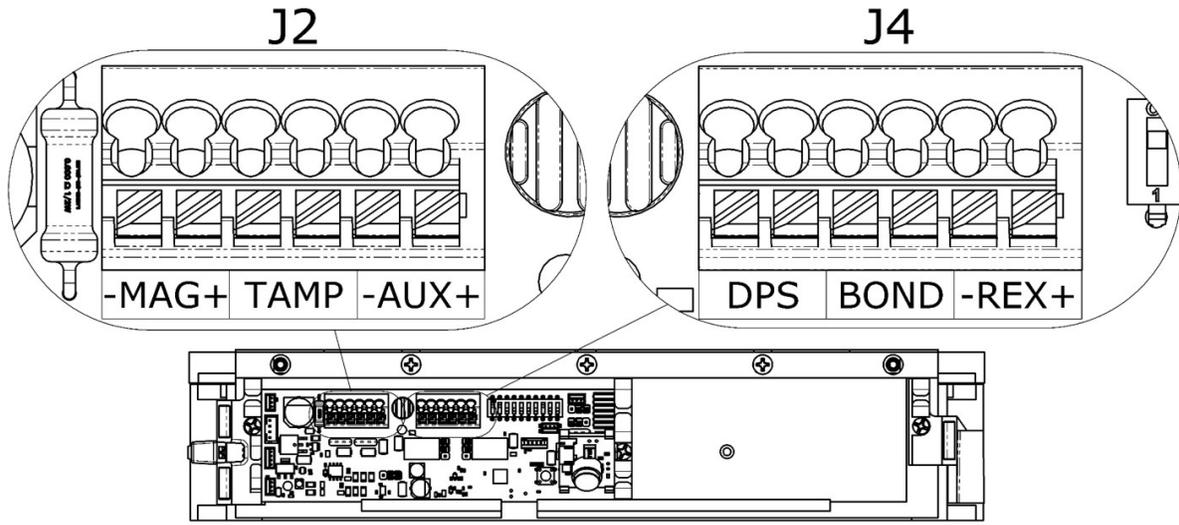

Figure 32. Location of J2 and J4 Terminals
1. CONNECT wiring using Figures 32 – 37 as guides and as applicable.